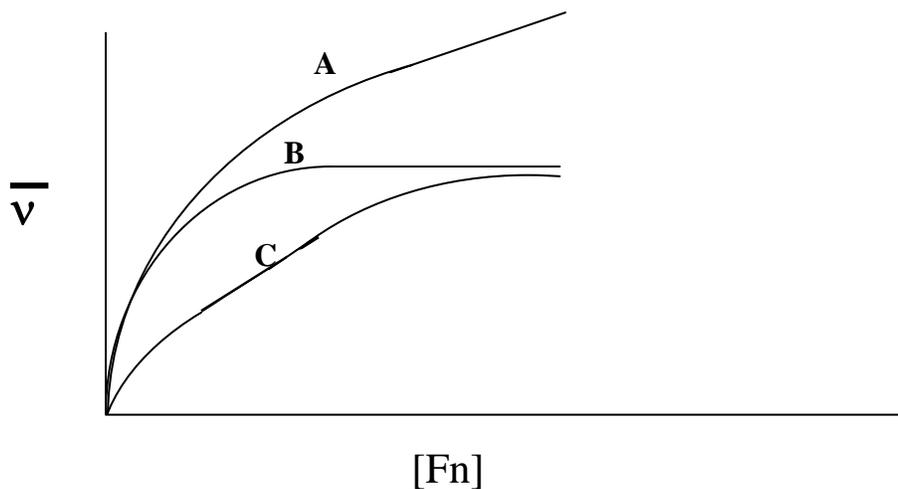

Fig. 1.1
- 1a. Three companies have developed competing polymers that they say can result in bonding (chemical bonding) of fibrous tissue to the surface as a result of adhesion of fibronectin (Fn). In support of their claims they provide the following data (Fig. 1.1). Which polymer would you choose to use? Explain.